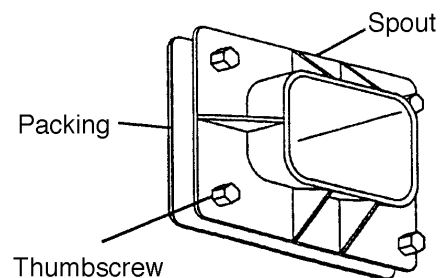

Fig. 8
- 5) Remove the thumbscrews, the Spout-Bin and the Spout Gasket-Bin. See Fig 8. For models DCM-750BAF and BWF, remove the Ice Guide, Drain Pipe Holder and Drain Pipe in the Storage Bin as well.